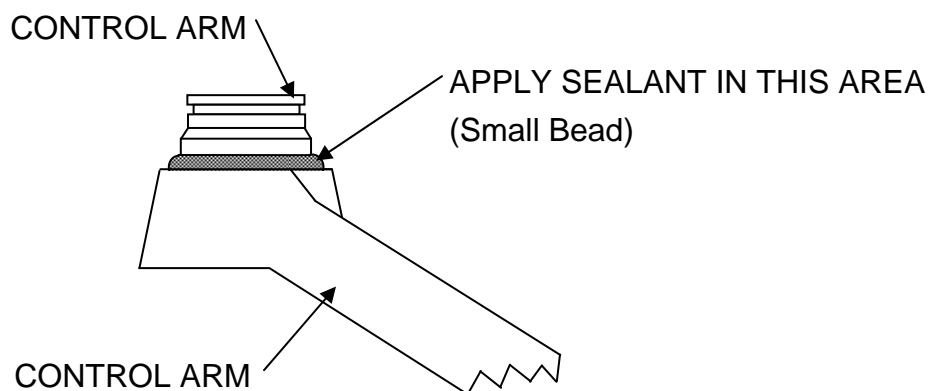

Figure 1 – Control Arm Area of Tail Rotor Blade Root Fitting
- 3) If the area does not have Sealant in place, apply small bead of Sealant to base of Control Arm Bushing as shown in Figure 1 below.